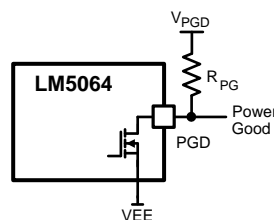
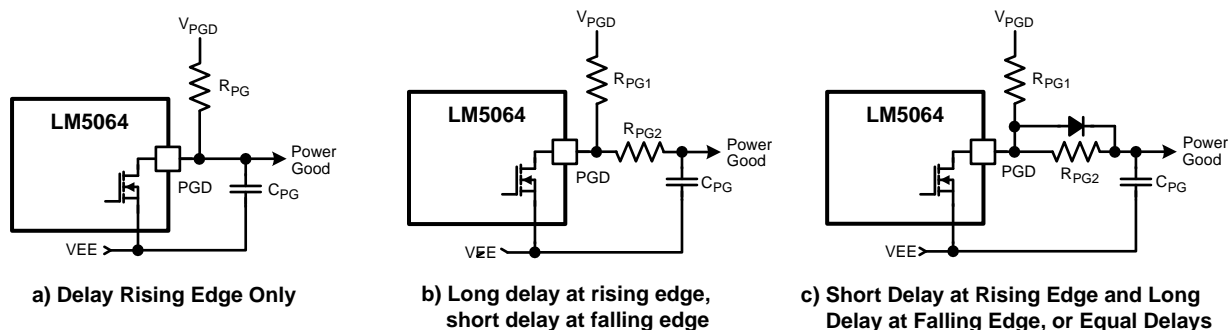

Figure 13. Power Good Output
Figure 14. Adding Delay to the Power Good Output Pin
When the Q_1 V_{DS} voltage is below its threshold, the internal pull-down acting on the PGD pin is disabled, allowing PGD to rise to V_{PGD} through the pull-up resistor, R_{PG} , as shown in Figure 13. The pull-up voltage (V_{PGD}) can be as high as 80V, and can be higher or lower than the voltages at VCC and OUT. VDD is a convenient choice for V_{PGD} as it allows interface to low voltage logic and avoids glitching on PGD during power up. If a delay is required at PGD, suggested circuits are shown in Figure 14. In Figure 14(A), capacitor C_{PG} adds delay to the rising edge, but not to the falling edge. In Figure 14(B), the rising edge is delayed by $R_{PG1} + R_{PG2}$ and C_{PG} , while the falling edge is delayed a lesser amount by R_{PG2} and C_{PG} . Adding a diode across R_{PG2} (Figure 14 (C)) allows for equal delays at the two edges, or a short delay at the rising edge and a long delay at the falling edge.